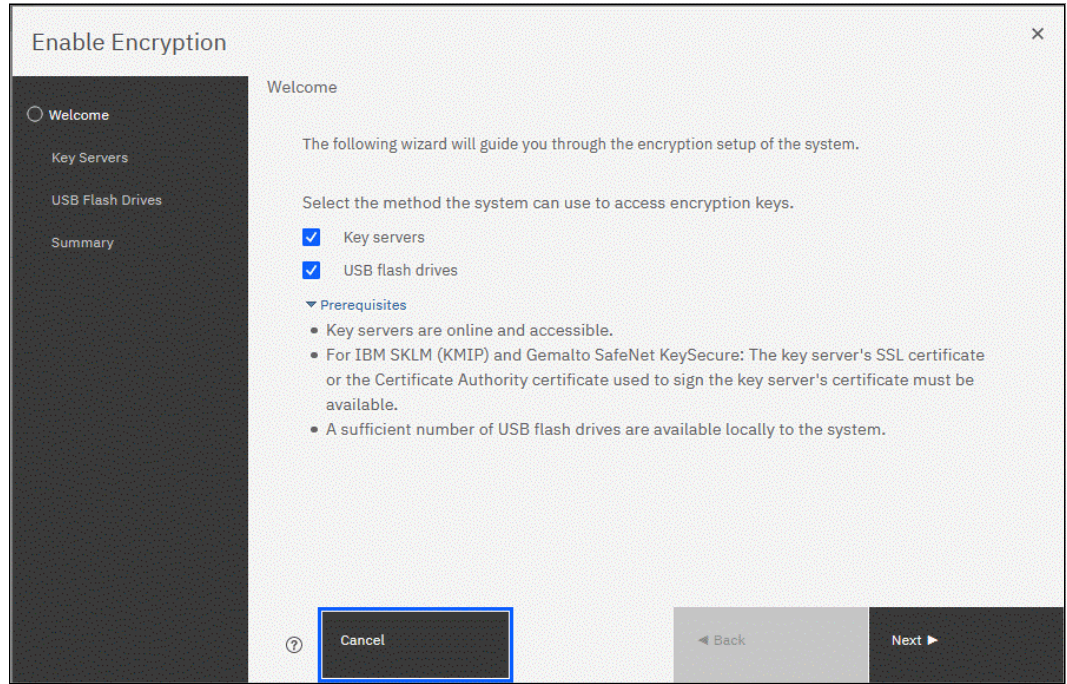

Figure 12-46 Selecting key servers and USB flash drives in the Enable Encryption wizard
2. In the Enable Encryption wizard **Welcome** tab, select **Key servers** and **USB flash drives** and click **Next**, as shown in Figure 12-46.